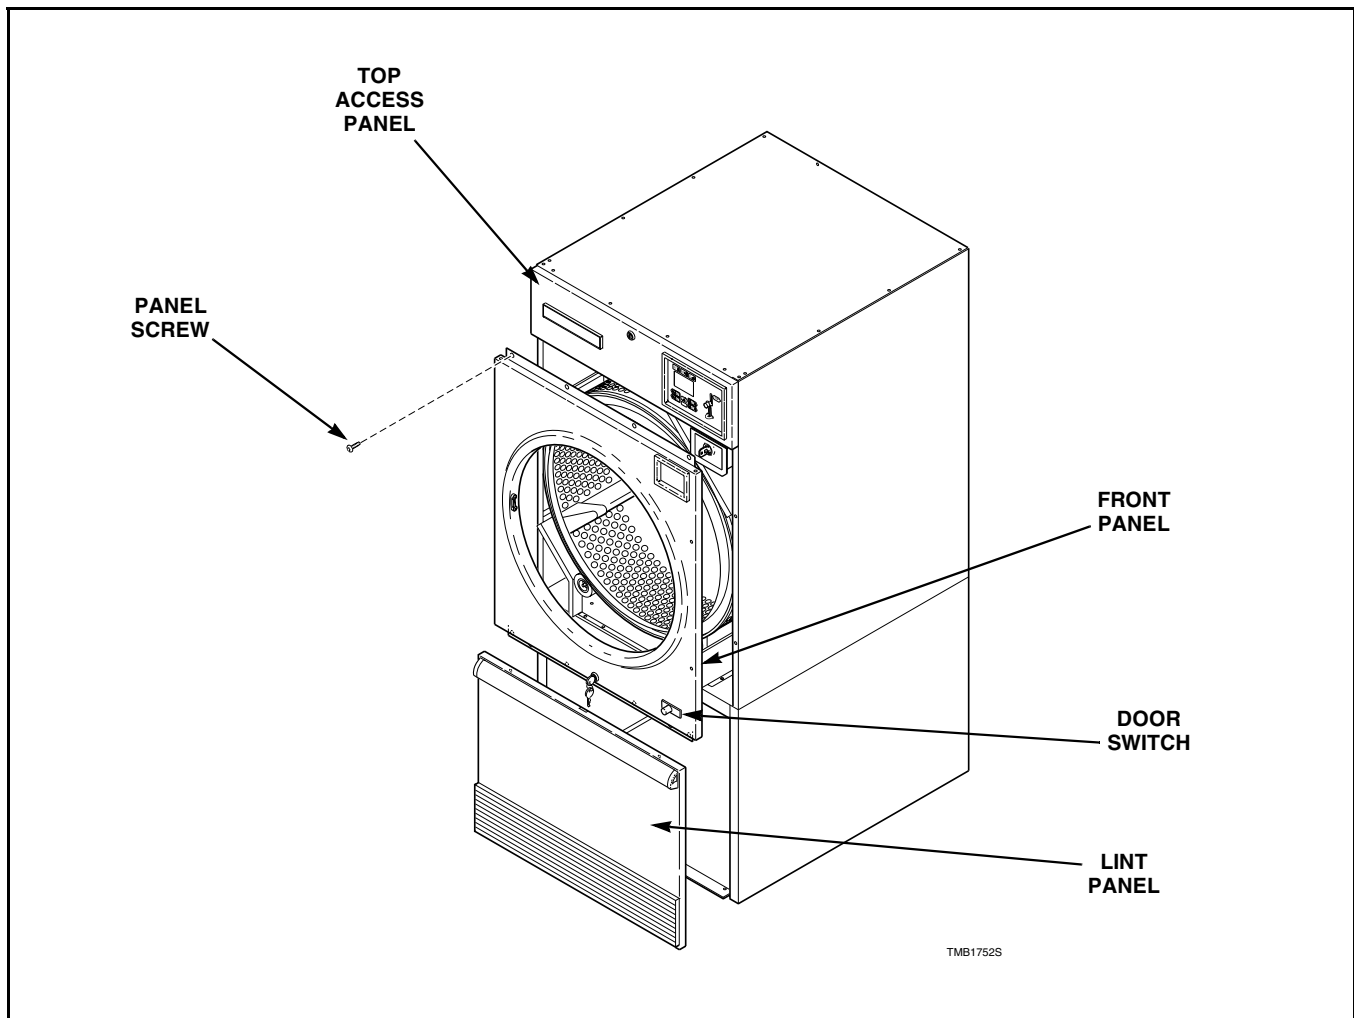

Figure 4
Refer to *Figure 4*.
- Remove screws from bottom of front panel. Refer to *Figure 4*.
- b. Remove screws from top and sides of front panel and loosen screws at bottom of front panel. Refer to *Figure 4*.
- a. Unlock top access panel over control and remove. Refer to *Figure 4*.